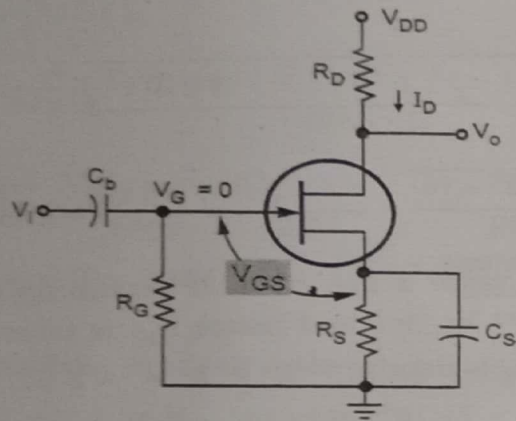

Fig. Q.21.1
Q.21 $V_p = -2 \text{ V}$, $I_{DSS} = 1.65 \text{ mA}$ for the circuit in Fig. Q.21.1. It is desired to bias the circuit at $I_D = 0.8 \text{ mA}$, $V_{DD} = 24 \text{ V}$. Calculate i) V_{GS} ii) g_m iii) R_S